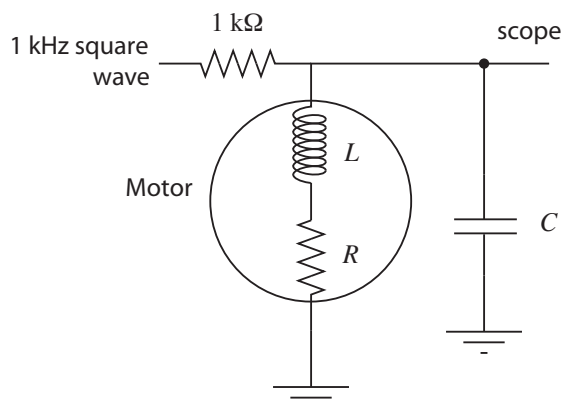

Figure 13.14: Using a capacitor to create an RLC circuit to measure motor inductance.
**Terminal inductance  $L$**  There are a number of ways to measure inductance. One approach is to add a capacitor in parallel with the motor and measure the oscillation frequency of the resulting RLC circuit. For example, you could build the circuit shown in Figure 13.14, where a good choice for  $C$  may be 0.01  $\mu\text{F}$  or 0.1  $\mu\text{F}$ . The motor acts as a resistor and inductor in series; back-emf will not be an issue, because the motor will be powered by tiny currents at high frequency and therefore will not move.